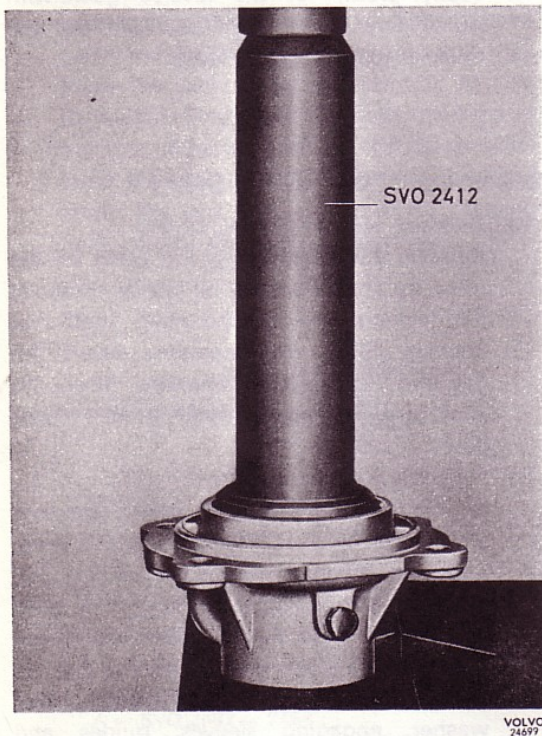

Fig. 23. Fitting ball bearing in rear cover
1. Press the ball bearing into the rear cover, see Fig. 23, and fit the locking ring. There